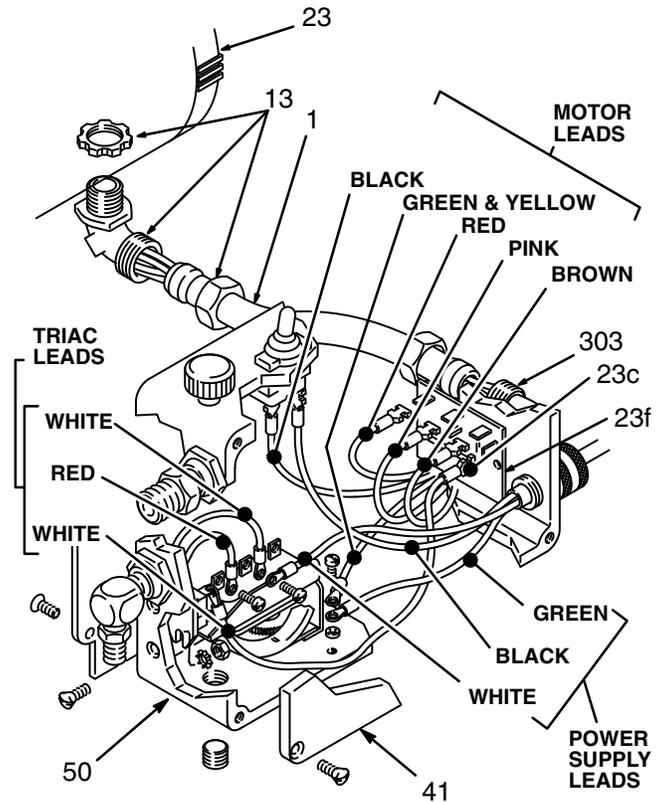

Fig 23-1
1. Remove the pressure control cover (41). Pull the circuit board (23f) out carefully, just enough to reach the wire terminals. Disconnect the leads. Remove the board. See Fig 23-1.
3. Disconnect the remaining two motor leads (black and green/yellow). See Fig 23-1.
5. Pull the pressure control (50) away from the conduit (1) and carefully guide the leads through the connector (303) one at a time. See Fig 23-1.
9. Connect any other loose wires. See Fig 23-1.
See wire colors in Fig 23-1.